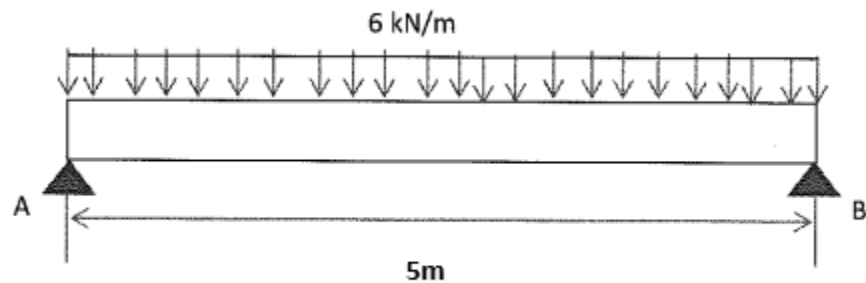

Figure 3(c) /Rajah 3(c)
- (c) **Figure 3(c)** shows 5m simply supported beam with distributed load of 6kN/m along the beam. Given $EI = 72.917 \text{ kNm}^2$. By using the formula, determine the slope in degree unit at point B is the beam length were **decreased 20%**.